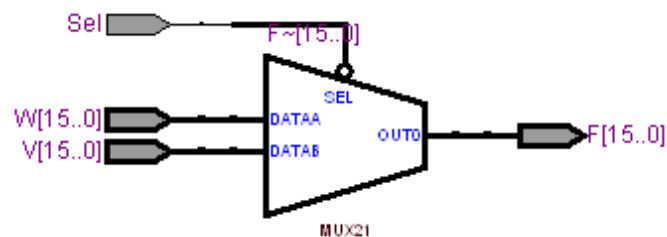

Figure 30: The multiplexer subcircuit.
- Details of subcircuits can be seen by clicking on the box that represents a subcircuit. Select the Selection Tool from the left hand toolbar (above the Zoom Tool), and double-click on the *mux2to1* box to obtain the image in Figure 30. It shows the multiplexers used to choose either the *Areg* or *Z* vector as one of the inputs to the adder, under control of the *Sel* signal. Observe that the multiplexer data inputs are labeled as specified in the VHDL code for the *mux2to1* module in part *b* of Figure 12, namely as *V* and *W* rather than *Areg* and *Z*.